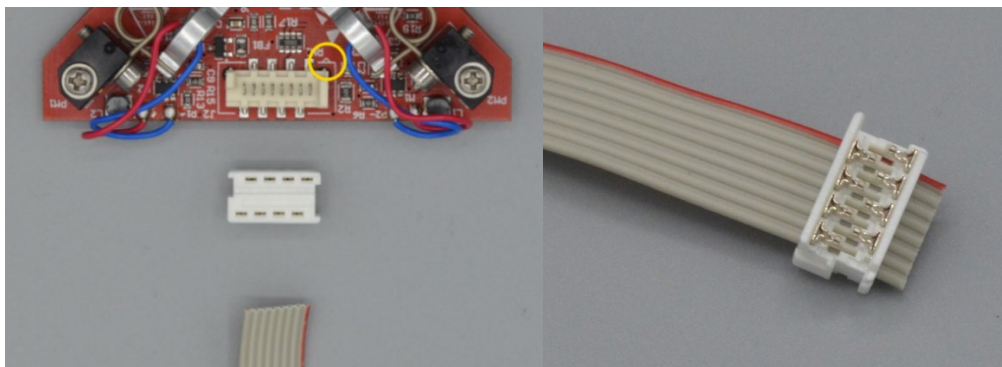

Figure 10 Slide the Connectors Onto the Ribbon Cable
2. Orientate the first connector to correctly mate with the connector on the stage, then arrange the ribbon cable as shown with the red wire aligned with pin 1 (identified on the PCB by a small triangle shown in the yellow circle in Figure 10). Slide the connector onto the ribbon cable as shown.